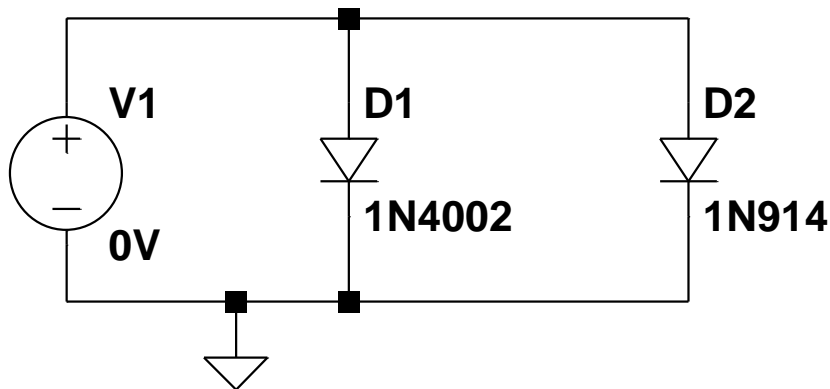

Figure 1
1. Construct the circuit shown in figure 1. Using a DC Sweep, simulate in LTspice the current-to-voltage characteristic of a diode.